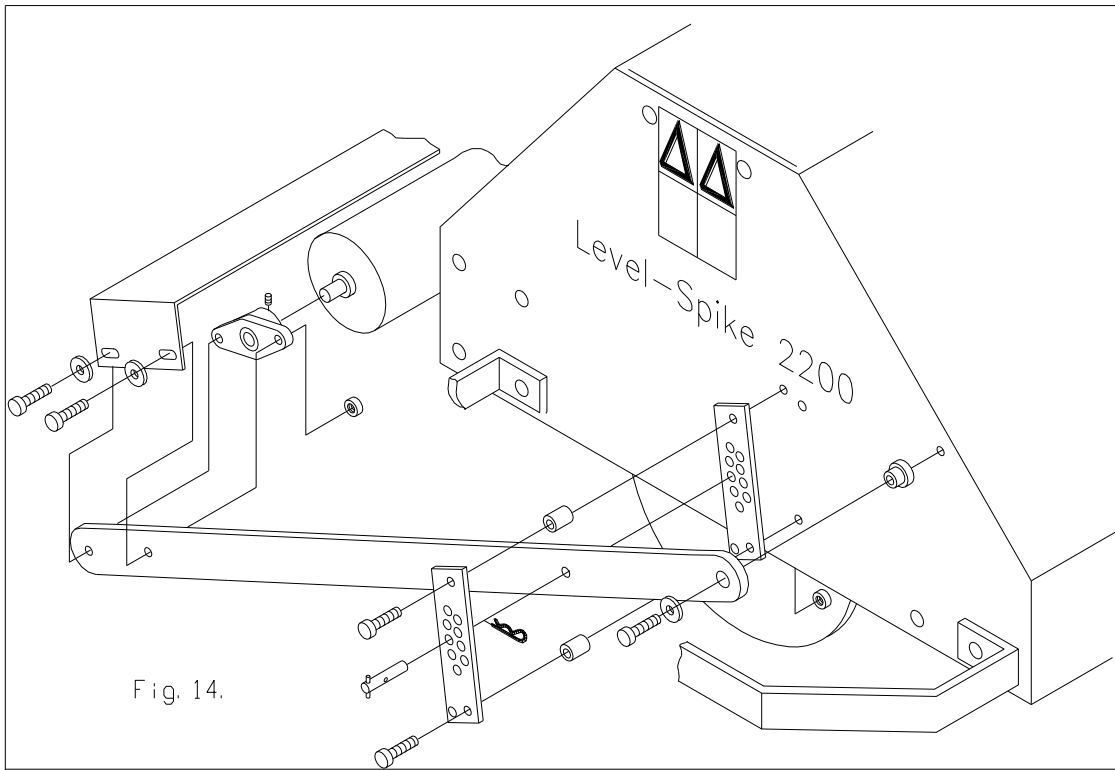

Fig. 14.
11.5 REAR ROLLER KIT, See fig.14.
A rear roller kit (# 213.170.002 for the 1700 and # 213.220.002 for the 2200) is available for both LEVEL –SPIKES. In Fig.14. the assembly of the rear roller is given, which is straight forward. The rear roller can float or set at a certain position. Please take notice of chapter 4.0, in which some notes are given, related to the use of the rear roller.